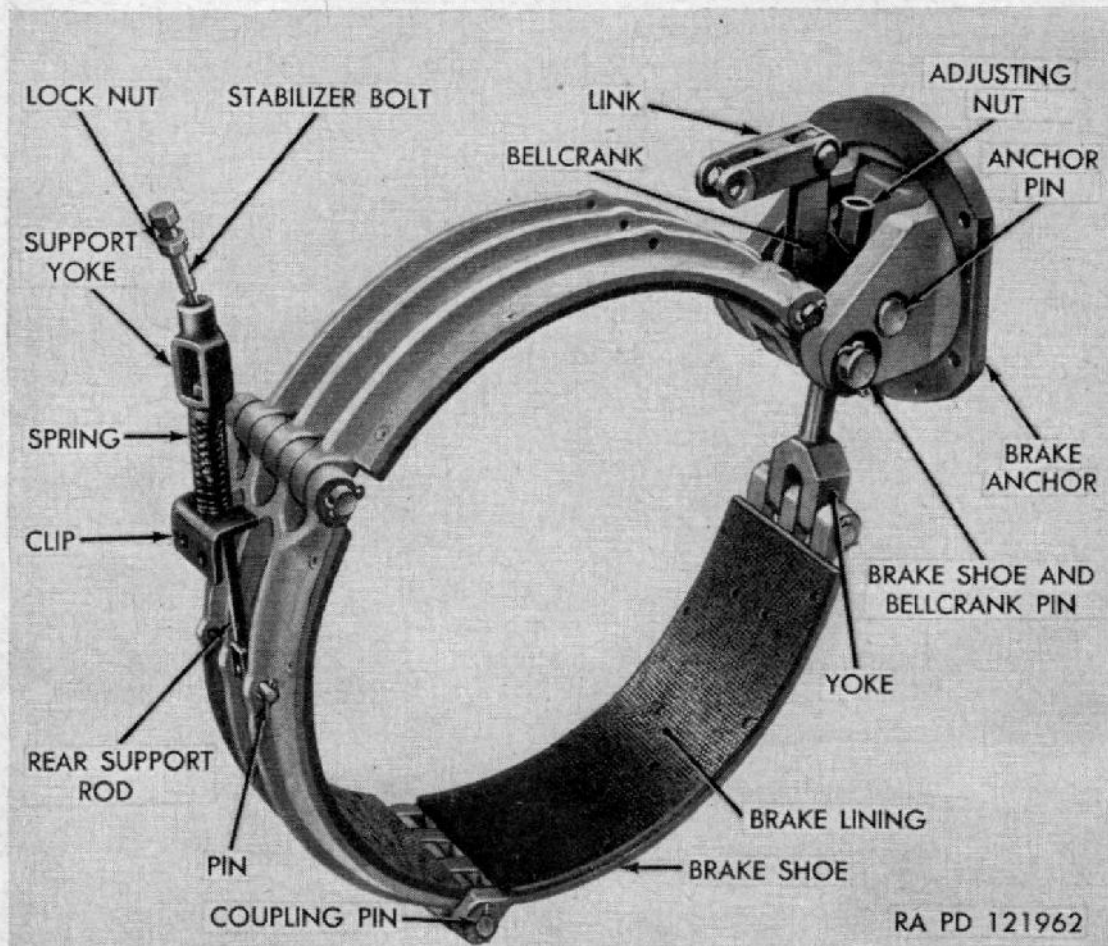

Figure 119. Steering brake assembly.
shoe. Pull inside cotter pin from the coupling pin connecting front end of lower shoe to front yoke. Slide pin toward outer side of case until it releases the yoke; then rotate the two lower shoes around drum toward rear, tip rear support rod forward out of clip (fig. 119), and remove the two lower shoes. Remove rear support rod from brake shoe and lift brake shoes out of the differential case.
a. Install and Connect Brakes. Couple two of the shoes together with a coupling pin and install cotter pins in ends of coupling pin (fig. 119). With narrow end of front shoe leading, start shoes around rear side of brake drums. Install rear support rod on second shoe with pin and cotter pin (fig. 119). Install cotter pin in one end of a coupling pin and bend ends of cotter pin. Start the coupling pin into outer-side of end of front shoe; then engage shoe with the front yoke, slip the coupling pin through the yoke and shoe, and install a cotter pin in the inner end of pin. Engage rear support rod in clip on back side of differential housing with spring above the clip. Install top shoe, connecting rear end of shoe to top of second shoe and front end to bellcrank connecting link with coupling pins (fig. 119). Secure pins with cotter pins in both ends.